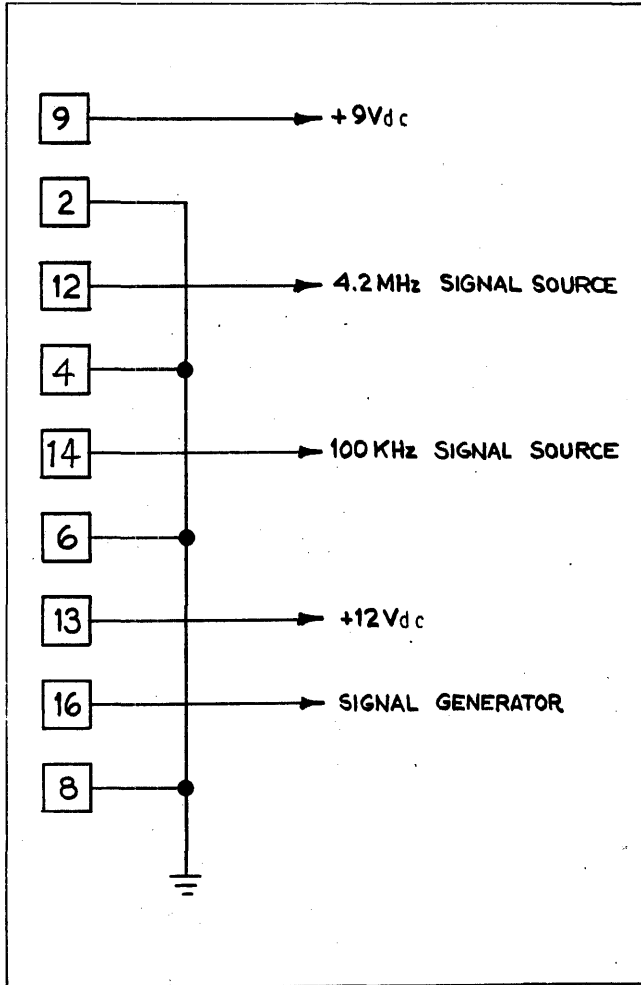

FIGURE 4-32. TEST CONNECTOR WIRING (FIM-1)
a. See Figure 4-32 for schematic of test connector wiring.